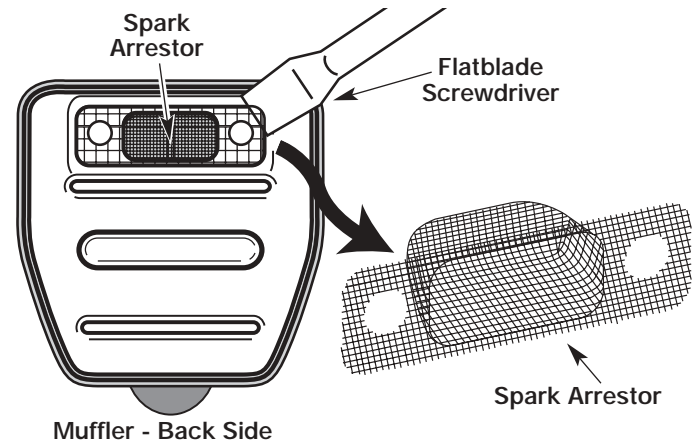

Fig. 26
4. Using a small flatblade screwdriver, carefully pry up the spark arrestor from the recessed hole (Fig. 26). Remove spark arrestor from muffler.
5. Clean the spark arrestor with a wire brush. Replace if damaged or unable to clean thoroughly (Fig. 26).